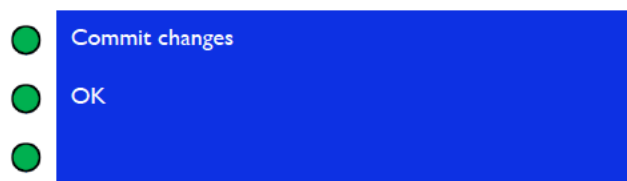

Figure 19: Commit Changes
- When DHCP is disabled and you want to enable DHCP press ✓. A Commit Changes Page appears (Figure 19).
5. On the Commit changes screen (Figure 19), press \downarrow to reach OK.